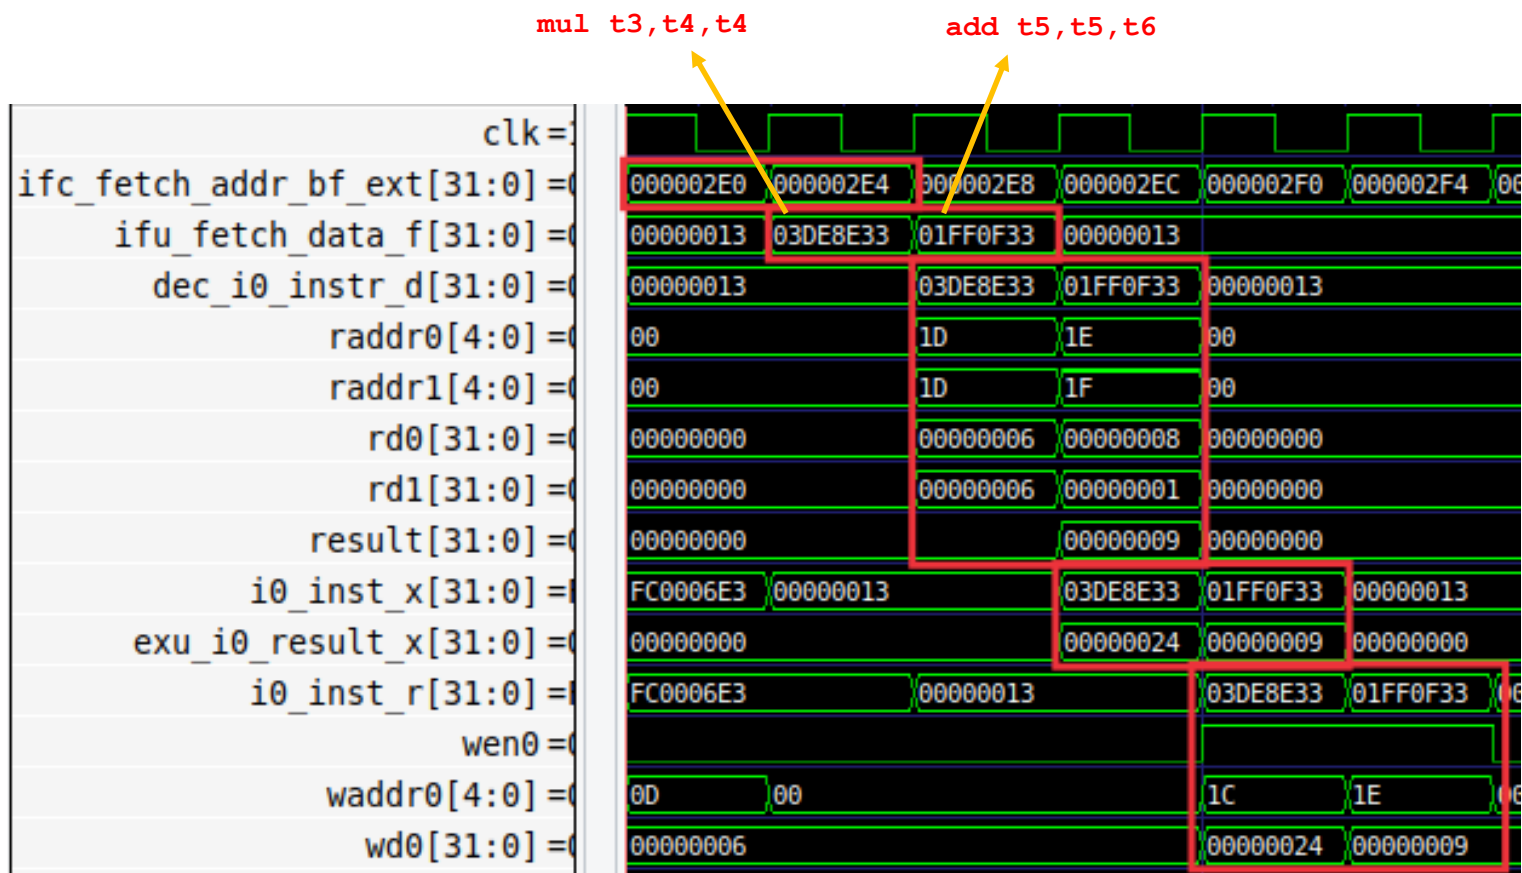

Figure 10. Simulation of the 4 stages of the VeeR EL2 core
Figure 10 shows RVfpgaEL2-Trace waveforms of the processor signals while executing the program in Figure 9. The following signals are included in the figure to trace the instructions as they progress through the pipeline.
TASK: Replicate the simulation from Figure 10 on your own computer by following the steps described in detail in the GSG.
Analyse the waveform from Figure 10 at the same time as the diagrams for the core shown in previous sections. The figures include some signals associated with each of the pipeline stages. The values highlighted in red correspond to the two instructions (*mul* and *add*) as they flow through the pipeline.
- **First cycle of Figure 10:**
- **Second cycle of Figure 10:**
- **Third cycle of Figure 10:**
- **Fourth cycle of Figure 10:**
- **Fifth cycle of Figure 10:**
- **Sixth cycle of Figure 10:**
TASK: Simulate the previous program on RVfpgaEL2-Pipeline in order to perform a similar analysis to the one just carried out in the previous text and in Figure 10. Remember that you must include the control instruction at the point where you want the simulator to stop execution (and `zero`, `t4`, `t5`).
For example, this is the VeeR EL2 pipeline at the fourth cycle shown in Figure 10. Note that the values are shown in decimal here (thus, the result of the multiplication is 36) whereas in Figure 10 they are shown in hexadecimal (thus, the result of the multiplication is 0x24).